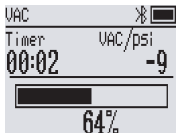

Figure 7 Vacuum test interface
① The high-voltage side channel is the vacuum test port of the system.
① When the pressure in the system is lower than the atmospheric pressure (that is, the pressure display is less than 0), it will display the vacuum degree of the system, otherwise it will display - - - -.
5.The interface (Fig.7) displays the current pressure value of the system, the vacuum degree of the system and the timing of entering this interface.